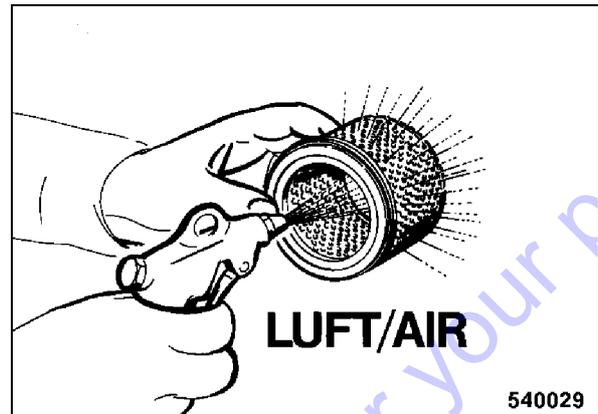

Fig. 61
- In case of dry fine dust blow out the filter cartridge carefully from inside to outside with dry, clean compressed air (Fig. 61) (max. 6 bar).